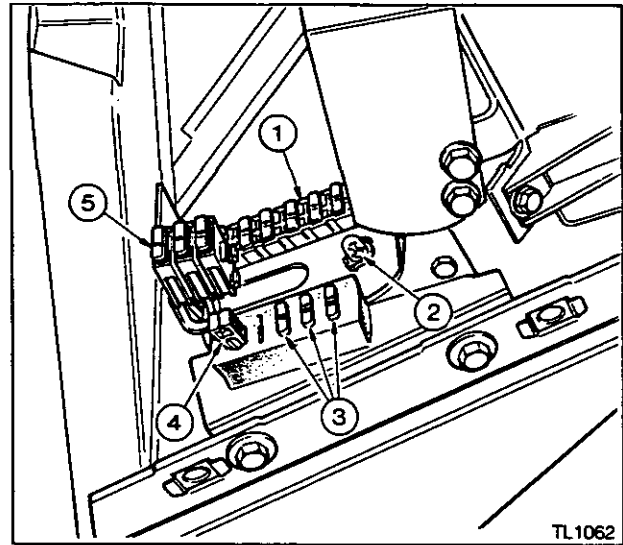

Figure 4
Fuses (Figures 4 and 5)
On footstep tractors the single fuse box (1) is situated behind the right hand instrument panel side cover (Fig. 4).
The bulb (2 Fig. 4) is the engine idling speed setting light. This is used when setting the fuel pump on the tractor engine.